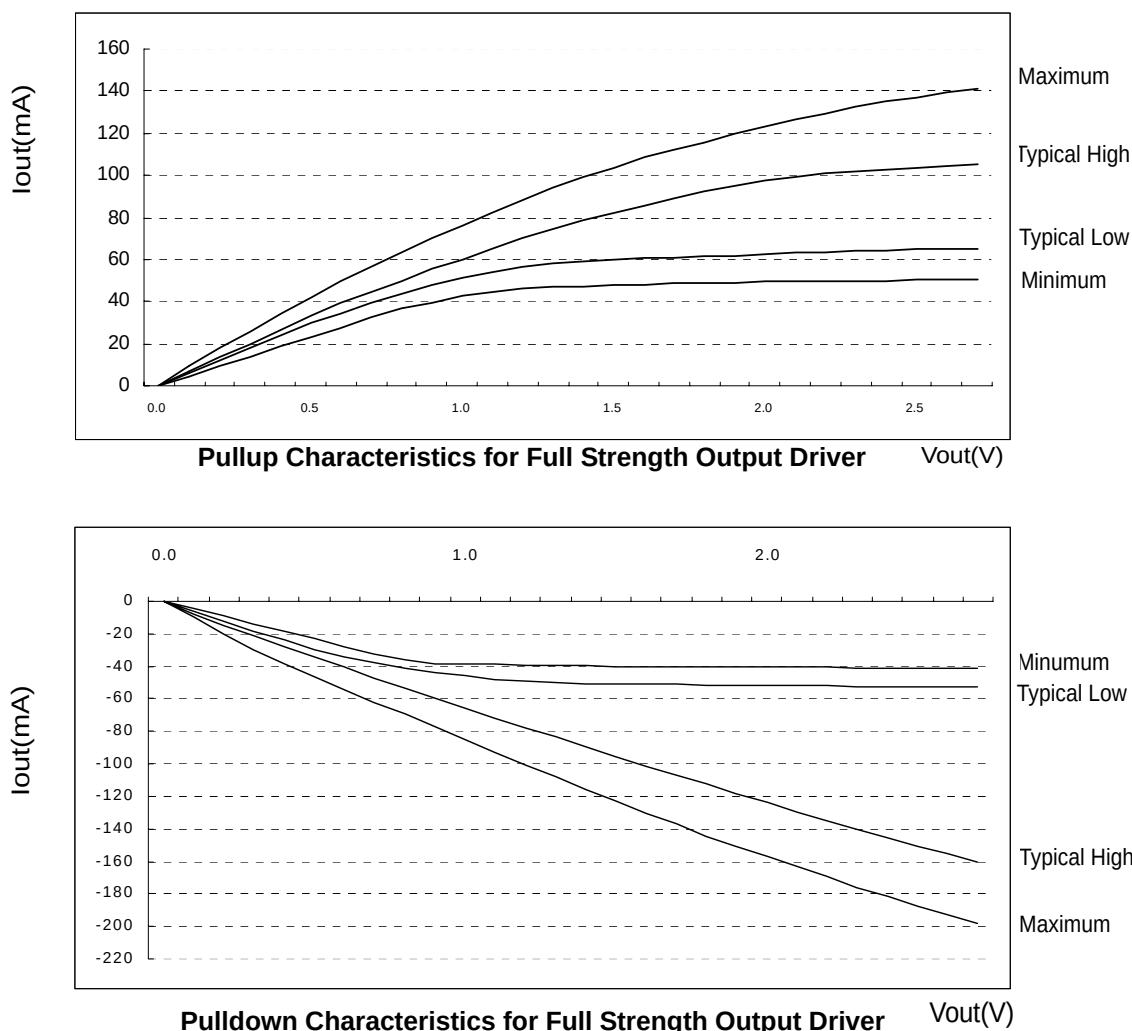

Figure 3. I/V characteristics for input/output buffers: Pull up (above) and pull down (below)
Figures 3 and 4 show the driver characteristics graphically, and tables 8 and 9 show the same data in tabular format suitable for input into simulation tools. The driver characteristics evaluation conditions are:
1. The full variation in driver current from minimum to maximum process, temperature and voltage will lie within the outer bounding lines the of the V-I curve of Figure 3 and 4.
2. It is recommended that the "typical" IBIS V-I curve lie within the inner bounding lines of the V-I curves of Figure 3 and 4.